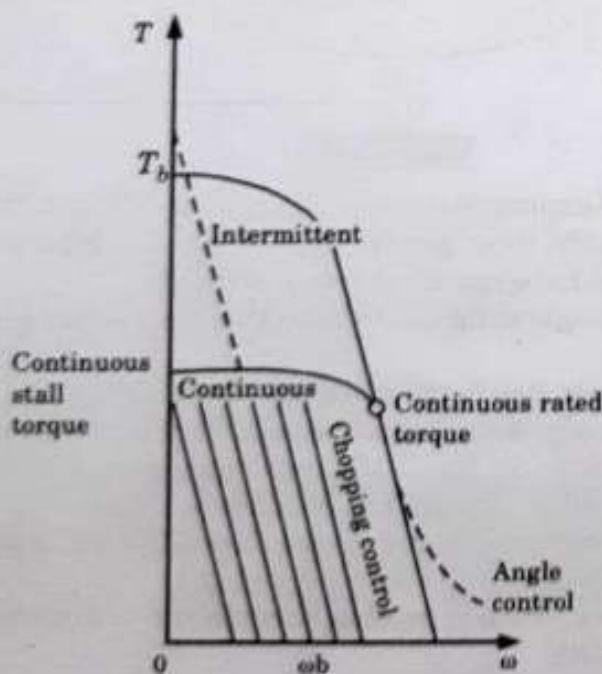

Fig. 4.14.1.
1. If phase resistance is small, the characteristics of permanent magnet brushless DC motor is similar to DC shunt motor. By varying voltage V , speed can be controlled. Voltage is controlled by chopping or PWM. It is shown in Fig. 4.14.1.